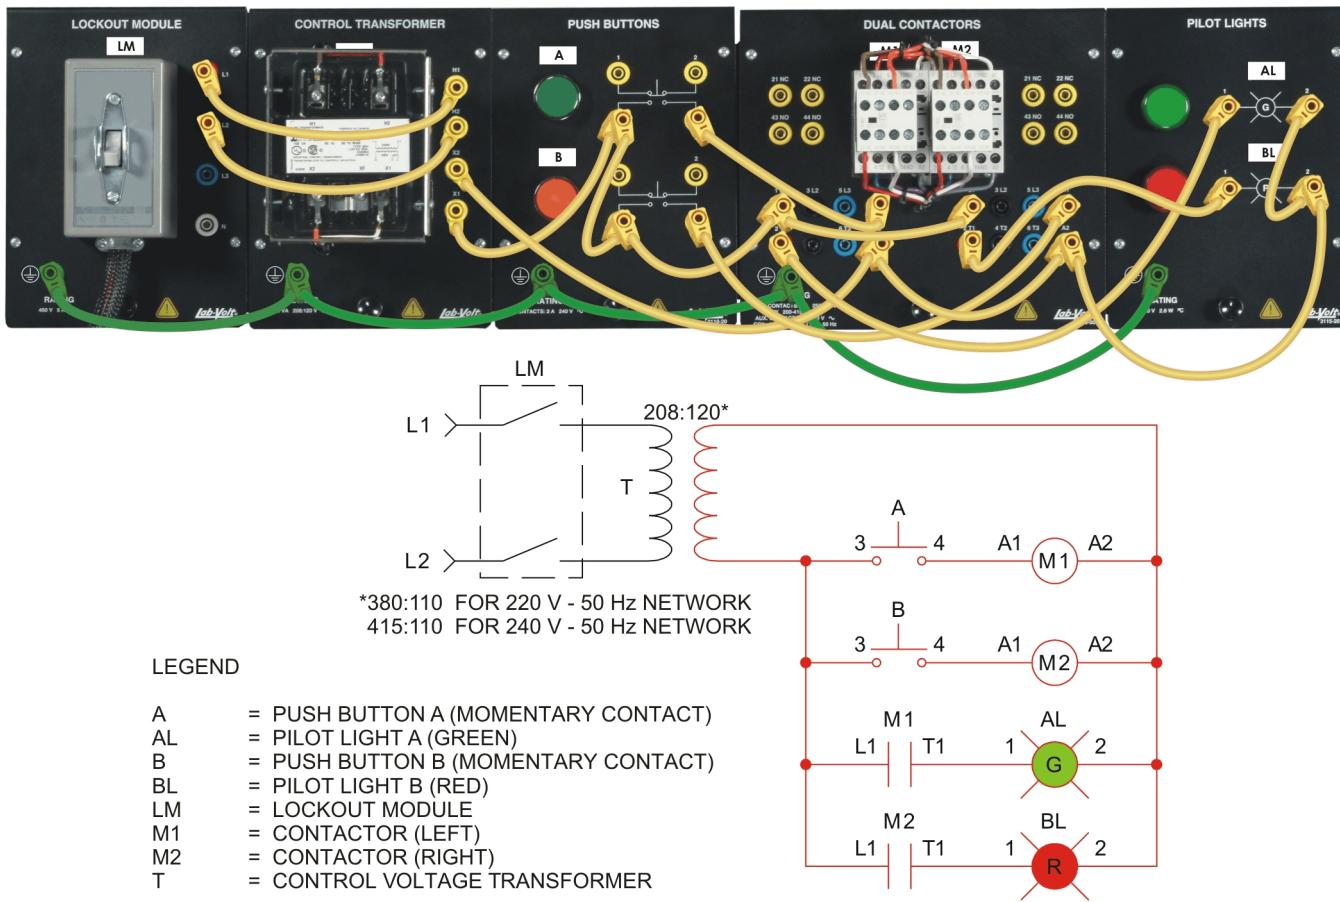

Figure 1-19. Mechanical interlock testing circuit.
- 14. Connect the circuit shown in Figure 1-19.